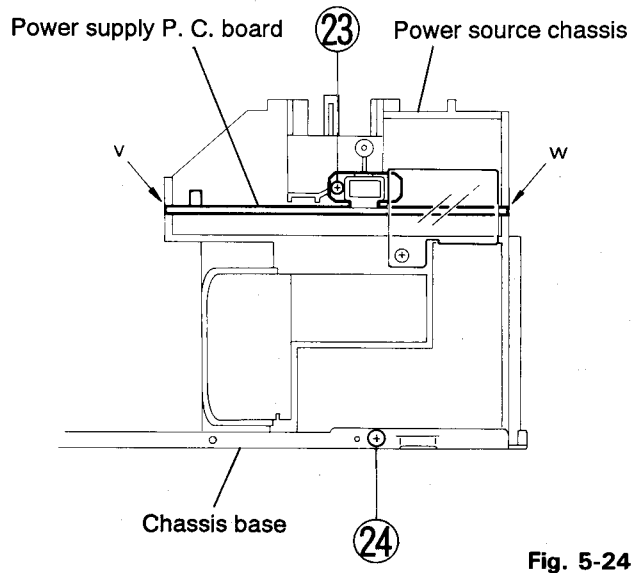

Fig. 5-24
■ How to Remove the Power Supply P.C. Board and Power Transformer (Refer to Figs. 5-24 ~5-27)
4. Remove the one screw (23) retaining the power supply P.C. board.
7. Remove the screw (24) retaining the power source chassis.
9. Remove the four screws (25) retaining the power transformer.